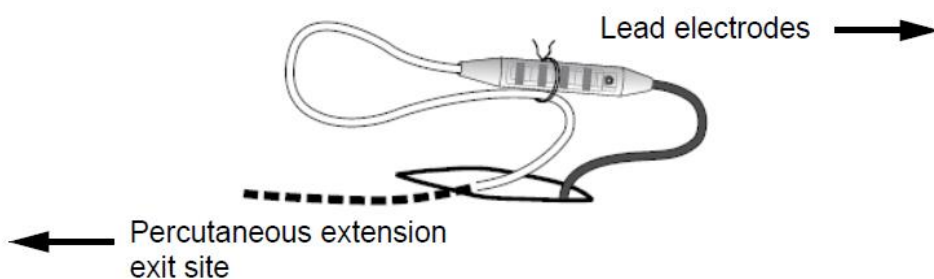

Figure 2. Suture secured and tied around the percutaneous extension connector and extension body.
2. Tighten and tie the suture securely around the percutaneous extension connector and extension body (Figure 2)